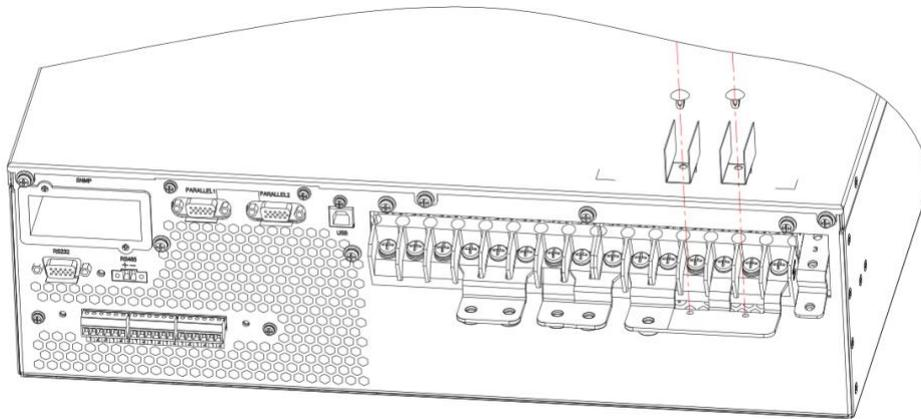
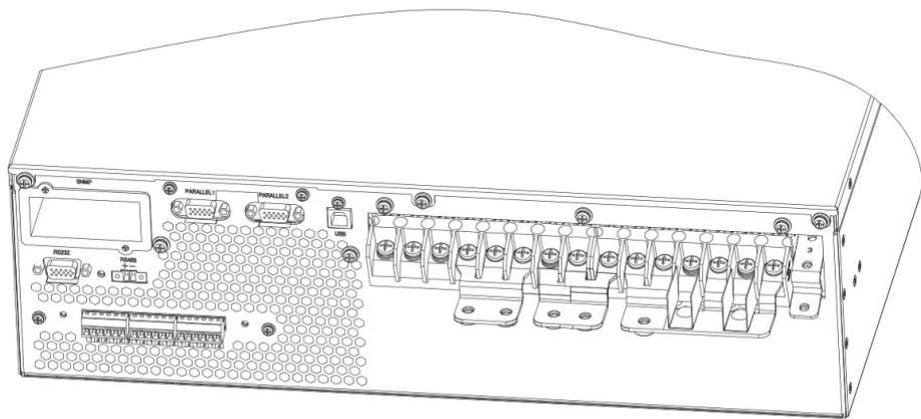

Fig. 2-17 Fix insulation film
Fig. 2-18 Graphic of insulation film fixed
3. Fix the insulating film (accessory) to the No.6 copper bar as shown in figure 2-17, and fixed in the corresponding position with the plastic rivet, as shown in figure 2-18.